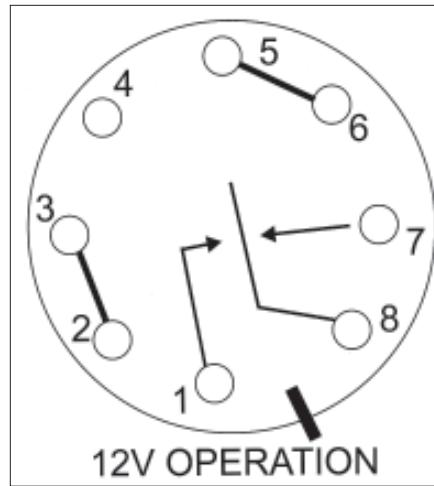
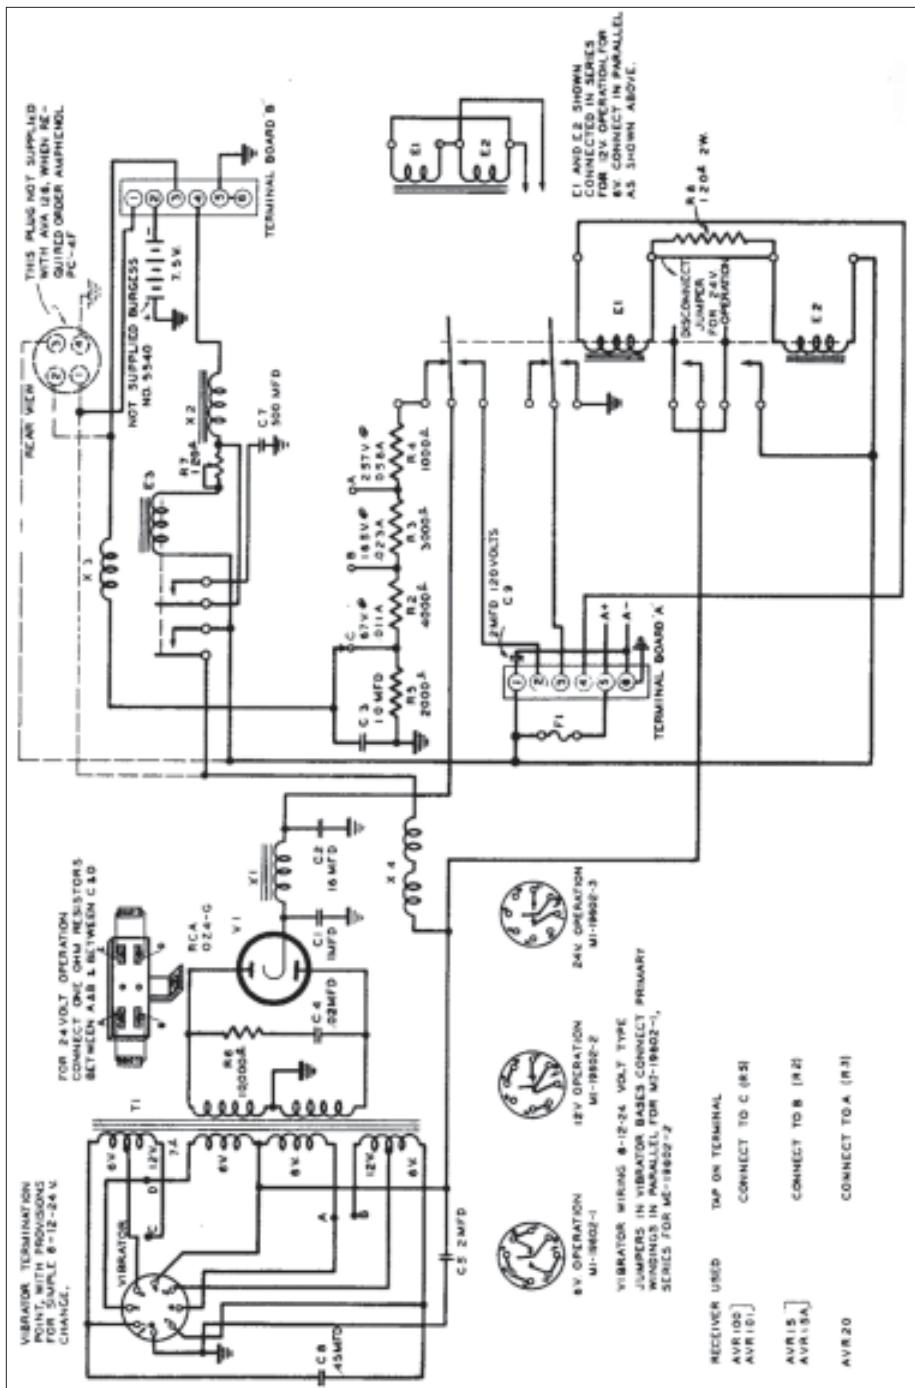
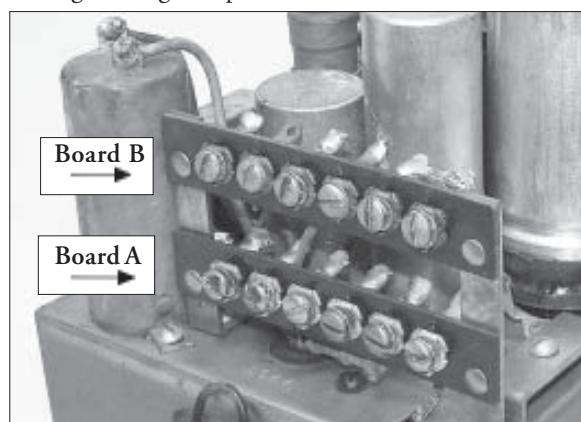

Figure 7: Vibrator Base Diagram with 12 Volt Jumpers
Figure 8: Complete AVA-126A Schematic
Figure 11: Close-Up View of the Terminal Board
The original vibrator for 12 volt operation was a series type with an 8 pin octal base. The low voltage was fed to pin 4 to supply current to the vibrator coil. Pin 8, the vibrating reed or armature, was grounded. The switched outputs were on pins 1 and 7 and fed the primary windings of the transformer. As mentioned previously, the primary windings of the transformer are selected via jumpers contained in the vibrator base. See figure 7 with an enlarged jumper diagram, and figure 8, the AVA-126A schematic.
that you have provided primary power to Board A (bottom) terminal 5 and ground. Any one of the 3 circuits below can be used to test the power supply. Detailed discussion of each terminal board is located at the end of this article. See figure 7.
alligator clips for shunt type vibrators or use 4 leads for series units. Don't forget to configure the primary winding jumpers on the test jig's octal plug, and then hook up the insulated leads with the alligator clips to the vibrator pins. Go back and look at figure 8. Note that on the schematic "CD" and "AB" are only used for 24 volt operations. During my testing, I tested both shunt and series vibrators and could not notice any difference in voltage output, ripple, or waveform. It is interesting to note that many military power supplies were designed to use both series and shunt vibrators.
The following information on the terminal boards A (bottom) and B (top) is provided. Each terminal board has 6 connections and is numbered. The reference is to figure 8, the AVR-126A schematic. Also see figure 11.
3. Provides high voltage to receiver (pin 1). Voltage is determined by resistor taps. See the figure 7 schematic.
4. Provides remote control of the power supply, when grounded it will activate vibrator circuit via relay E3. Note: This is for remote control of the power supply normally the power supply is activated by turning the receiver to "ON," which provides 12 volts to terminal 1 of board (B).